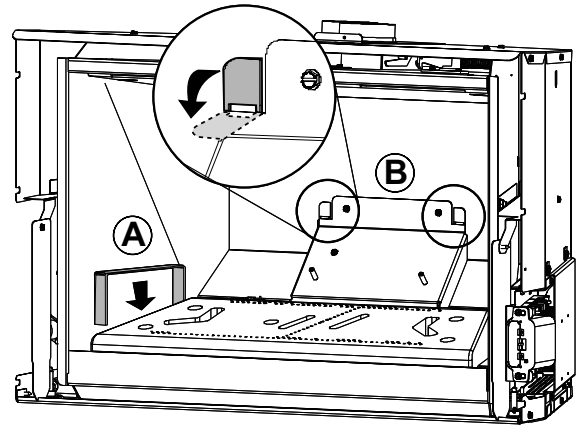

Fig. 7.12
1. Check that each Panel Support Shelf, (A, Fig. 7.12) is centered against the side walls on the firebox floor. These are not used with the Fluted Panels and should be removed.